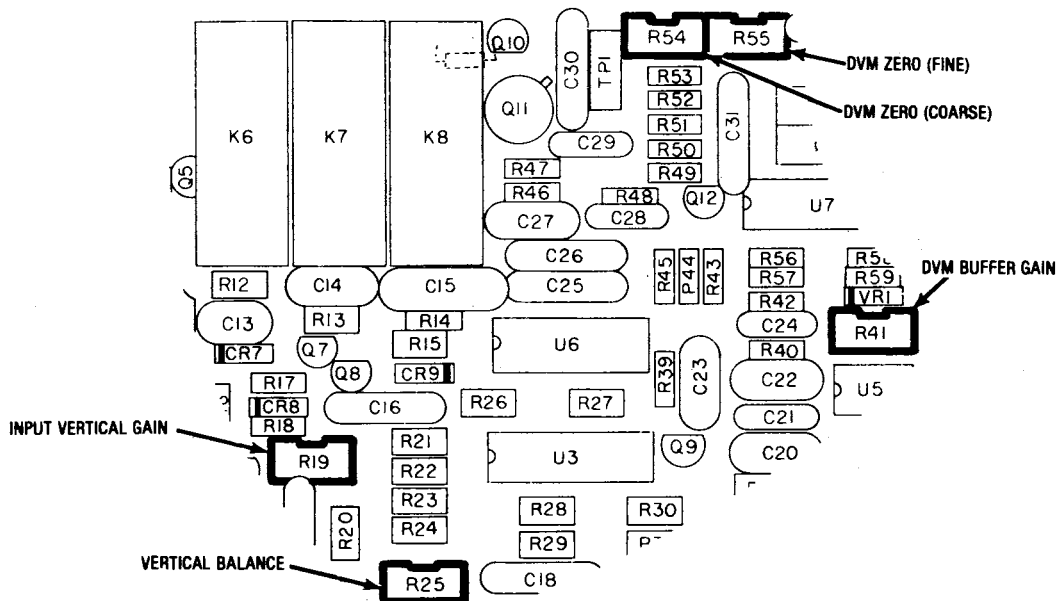

Figure 5-13. Front Panel Interface Alignment Points
5. Adjust the Input Vertical Gain Potentiometer on the Front Panel Interface Board (Figure 5-13) for a 6 cm p-p sinewave on the CRT. (Use the front panel Position Controls to center the waveform on the CRT.)
3. Adjust the DVM Zero (Coarse) and the DVM Zero (Fine) Potentiometers on the Front Panel Interface Board (Figure 5-13) for a zero reading on the DVM Display.
4. Adjust the Coarse DVM Zero and the Fine DVM Zero on the Front Panel Interface Board (Figure 5-13) until the external DVM reads 0 ± 0.5 millivolts DC.
5. Remove the short circuit on the DVM input jack and apply approximately 0.900 volts DC from an external power supply. The voltage between TP2 and TP9 of the Scope/DVM Control Board should be within ± 1 mv of the voltage at the front panel DVM input jack. If the unit fails this test, adjust the DVM Buffer Gain on the Front Panel Interface Board (Figure 5-13) until the above two voltages are equal.